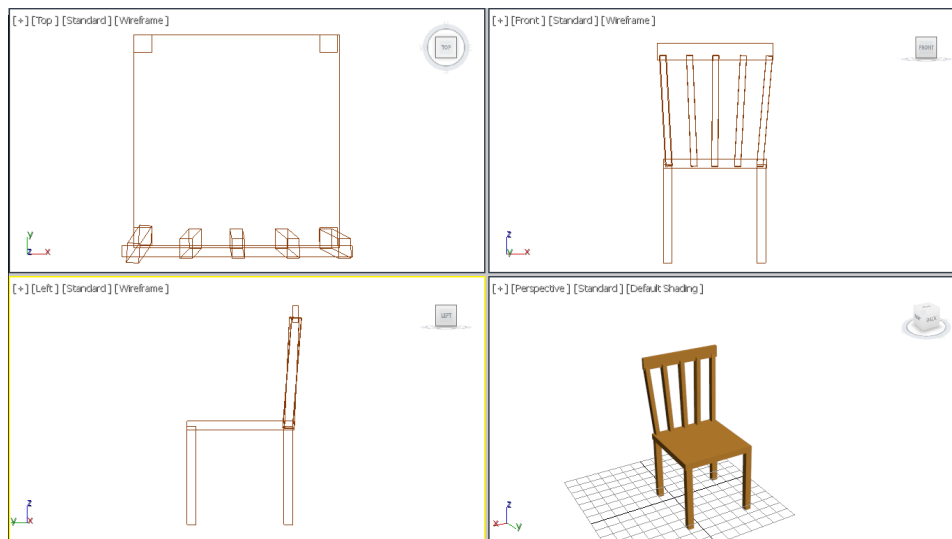

Figure 2-62 Alignment of *back2* and its copies
13. Rename it as *back2*. Next, create 4 copies of *back2* and align them with *base* using the **Select and Move** and **Select and Rotate** tools, refer to Figure 2-62. Also, align *back1* with all these parts, as shown in Figure 2-62.